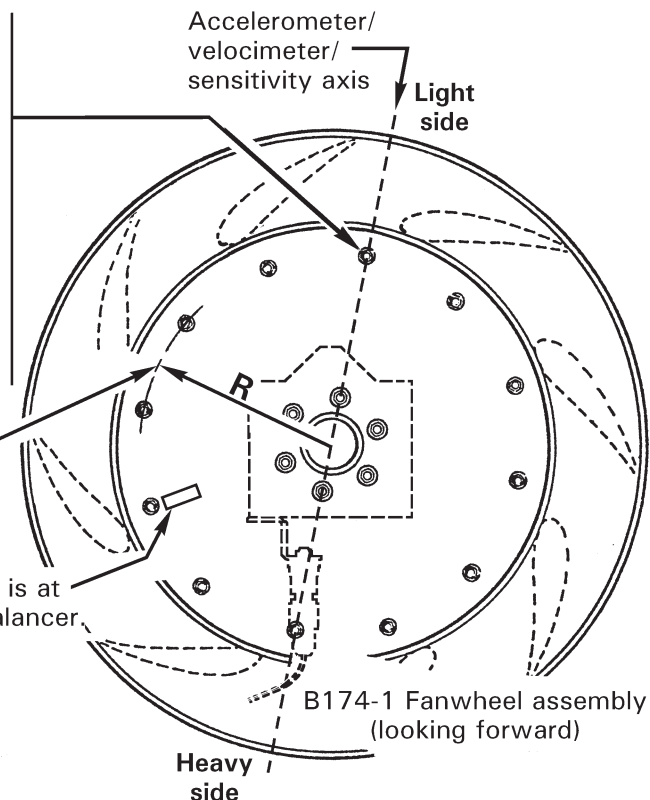

FIGURE 6-4 FANWHEEL DYNAMIC BALANCE
2. Refer to Figure 6-4. Install accelerometer on lower actuator bearing left bolt. Accelerometer wire should be pointed down. A suitable bracket may be assembled from two accelerometer brackets or may be fabricated.
11. As required, following first run-up after fanwheel installation, verify (6) fanwheel hub bolts are properly torqued per § 23-33.
12. If IPS exceeds 0.2, balance weights must be changed. Rotate fanwheel until target tape is in position noted in step 8. Increase balance weight by changing washers under nut closest to 1 o'clock position or by splitting required weight change among two nearest nuts per Figure 6-4. Alternatively, weight may be decreased under nut closest to 7 o'clock position. Total washers under each nut must result in (2) to (4) threads protruding past nut to ensure proper clamp-up. Access balance weight bolt heads thru hole under D229-4 cover (if installed; cover may be retrofitted using P/N KI-111 Kit) on forward side of lower scroll or thru oil cooler access door (with a crowfoot on a flex handle) and rotating fanwheel as required. Ensure NAS1149F0316P washers (if installed) are not dislodged if NAS6603-6 bolts are removed. Special torque NAS6603 bolts per § 23-33. Install D229-4 cover.